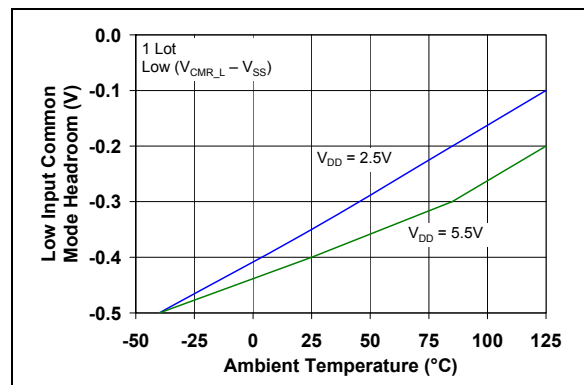
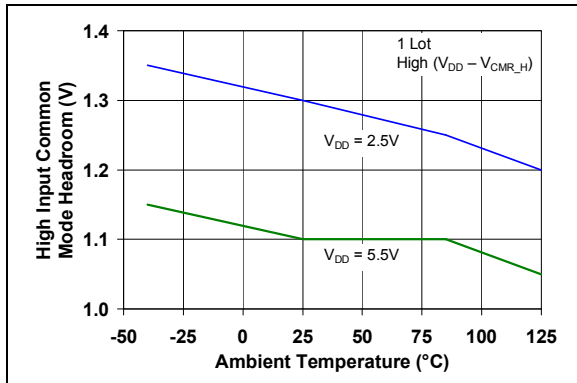

FIGURE 2-6: Low Input Common Mode Voltage Headroom vs. Ambient Temperature.
FIGURE 2-7: High Input Common Mode Voltage Headroom vs. Ambient Temperature.
- 3: See Figure 2-6 and Figure 2-7 for temperature effects.